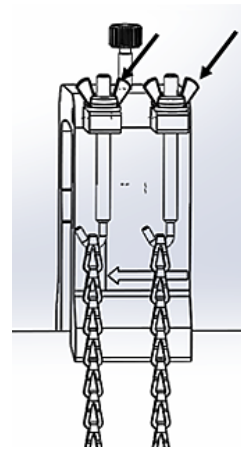

Figure 31: Secure the yoke
- Tighten the nuts to secure the yoke to the pipe (see Figure 31 below).